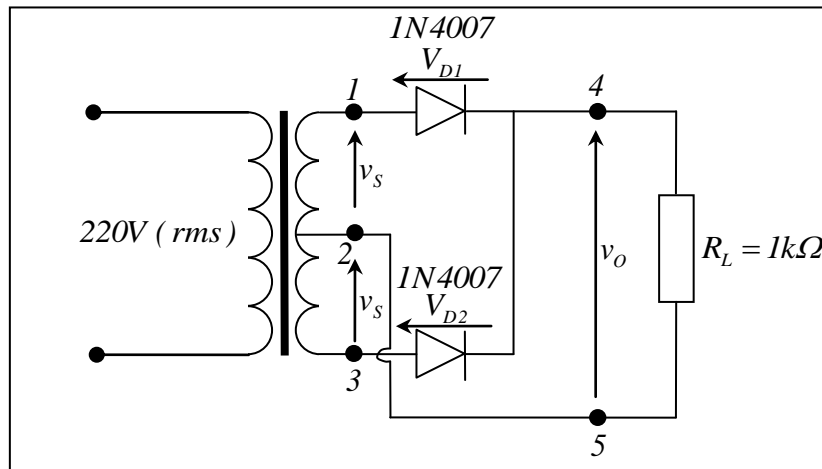

Figure 1. Full-wave rectifier circuit with center-taped transformer
- Assemble the circuit as shown in Figure 1 and apply an AC voltage of $v_s(max) = 2X6V$ to terminals 1 and 3.